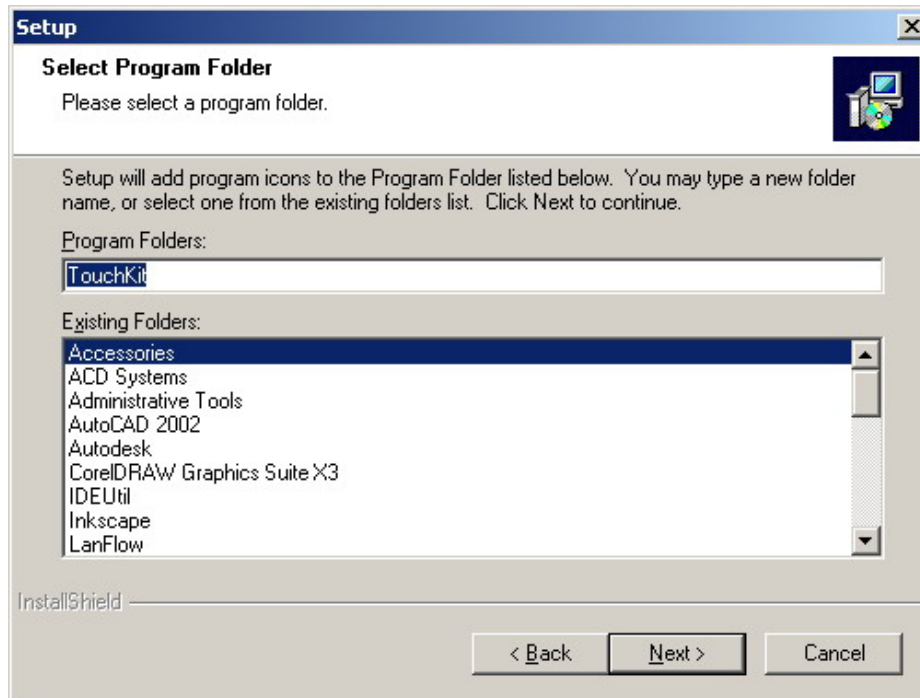

Figure D-8: Program Icon Directory
Step 11: The user is then prompted to select a file directory in which the program icons are saved (**Figure D-8**). The default folder is "TouchKit." If a different folder must be used, select a folder from the list shown. Once the folder is selected, click **NEXT** to continue.